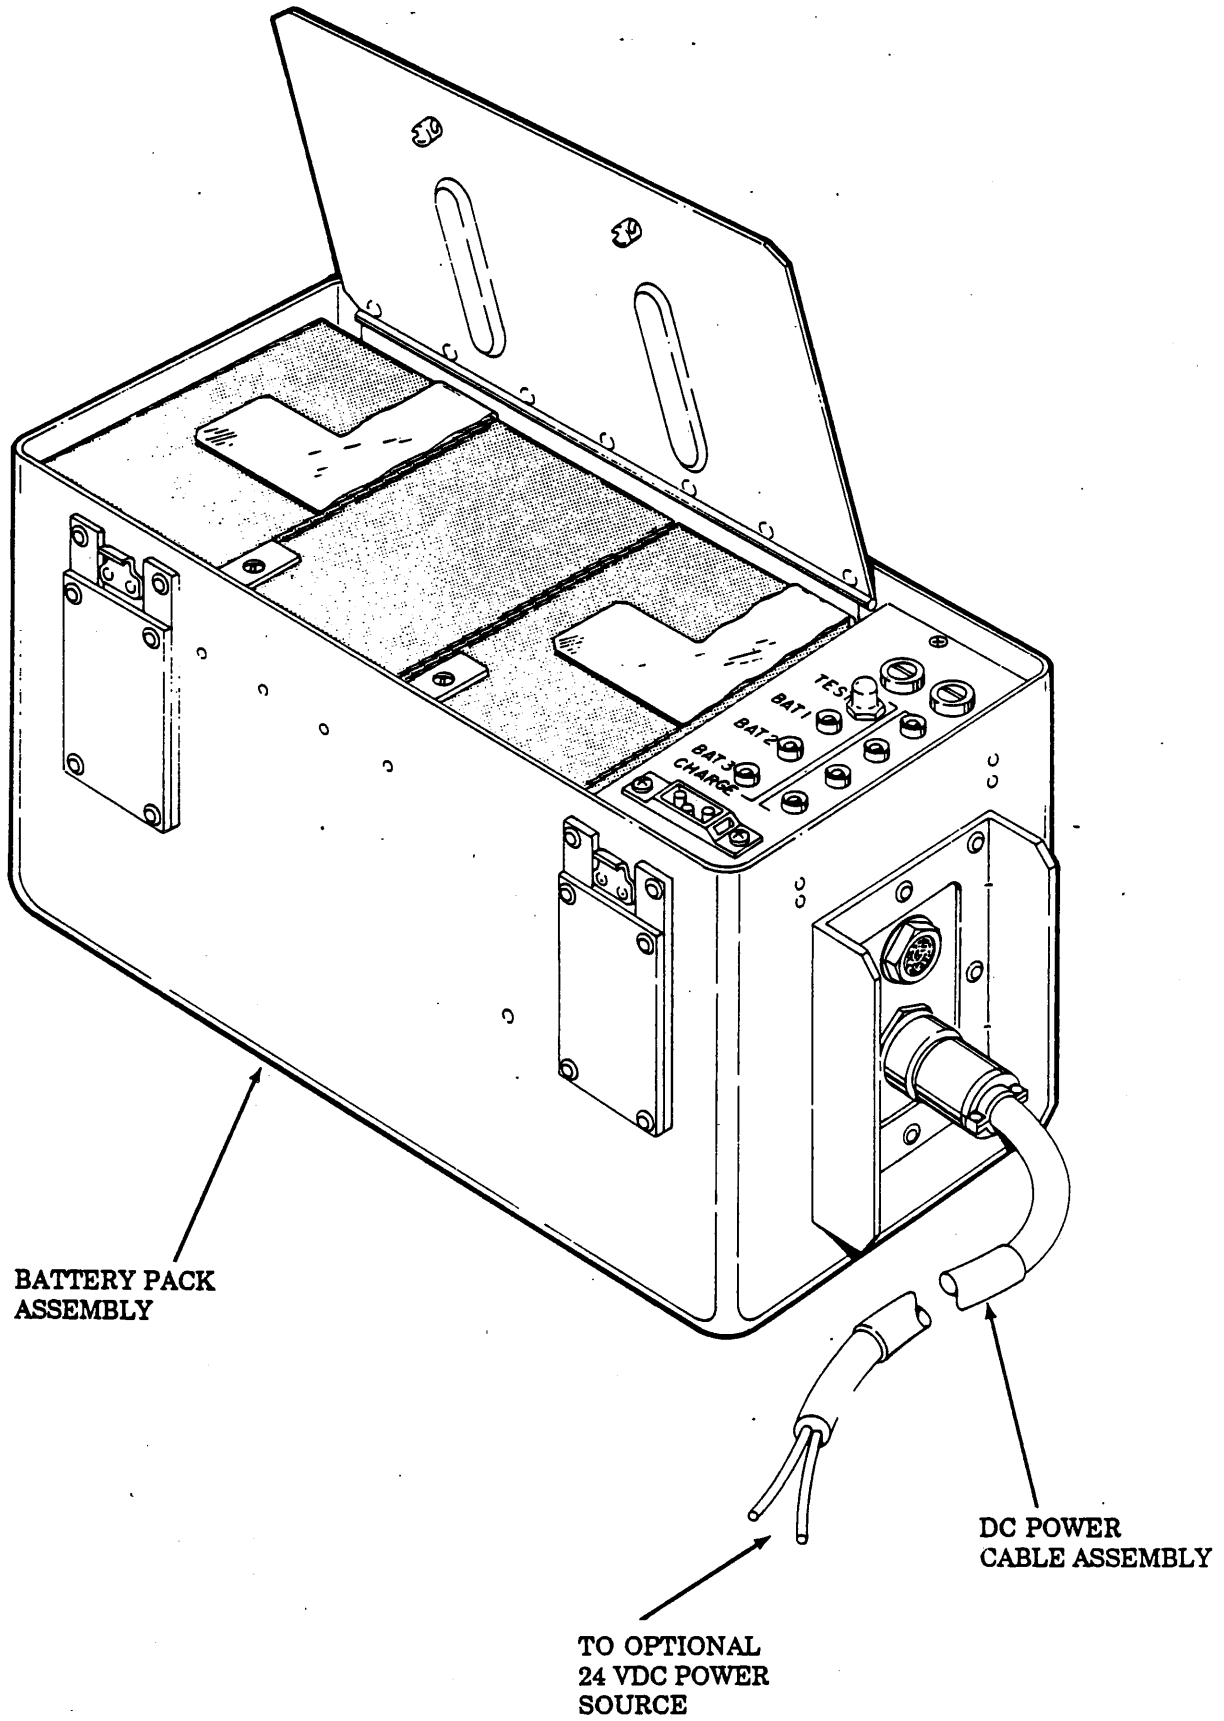

Figure 2-4. DC Power Cable Installation
**2-3.2 Install DC Power Cable Assembly.** If external DC power is to be selected as the power source option, connect the DC power cable to the external connection on the Battery Pack as shown in Figure 2-4 and rotate the outer ring to lock the connector. On the opposite end of the cable, two split lugs are provided for connection to an external power source. Ensure that power is turned off at the external source before making any connections. The black wire connects to the negative (-) terminal, the white wire to the positive (+) terminal. Operation of the system is highly dependent upon clean and tight connections of these leads